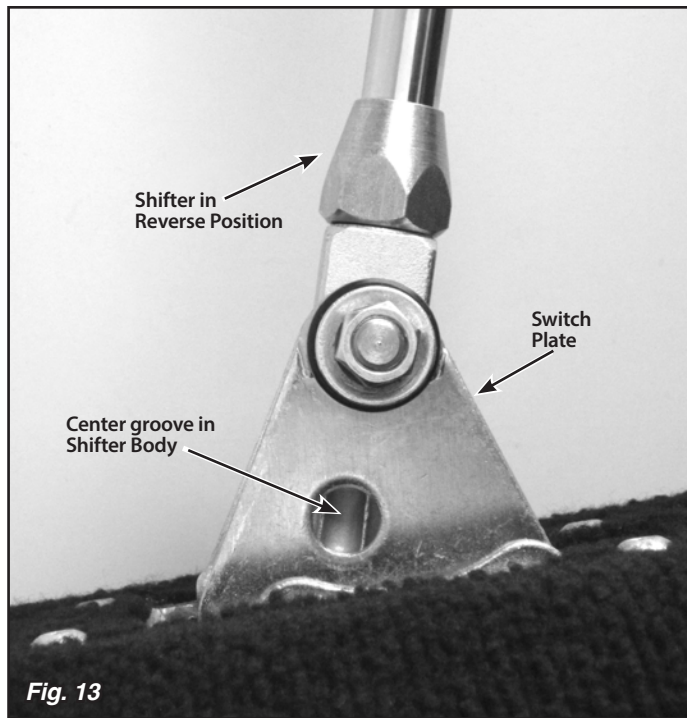
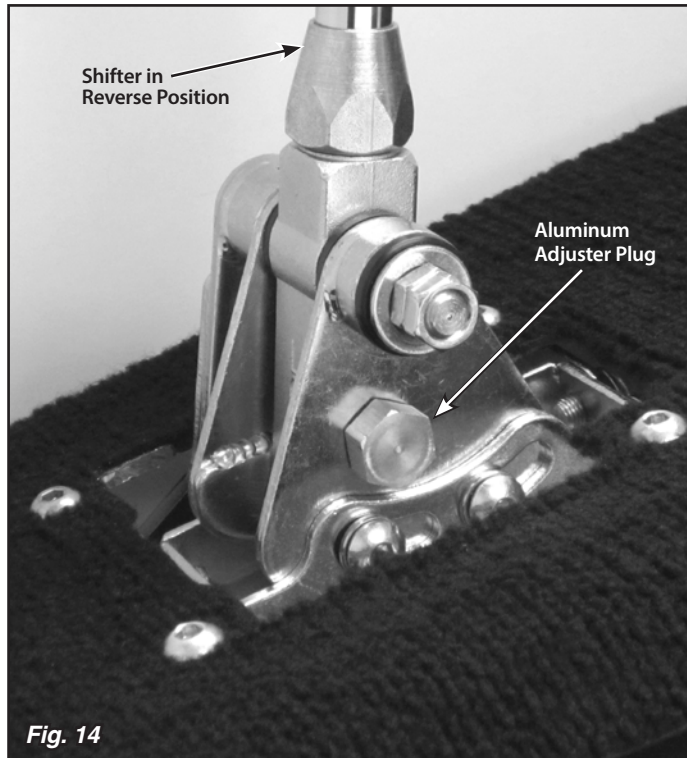

Fig. 13
Fig. 14
Step 17: Put the shifter into the Reverse position. Reposition the switch plate so that the hole in the switch plate lines up with the center groove in the shifter body. **Fig. 13** Screw the provided aluminum adjuster plug into the neutral safety switch opening. Wiggling the switch plate slightly forward and back while you are screwing the aluminum adjuster plug in will help get the shifter body centered on the adjuster plug. **Fig. 14**